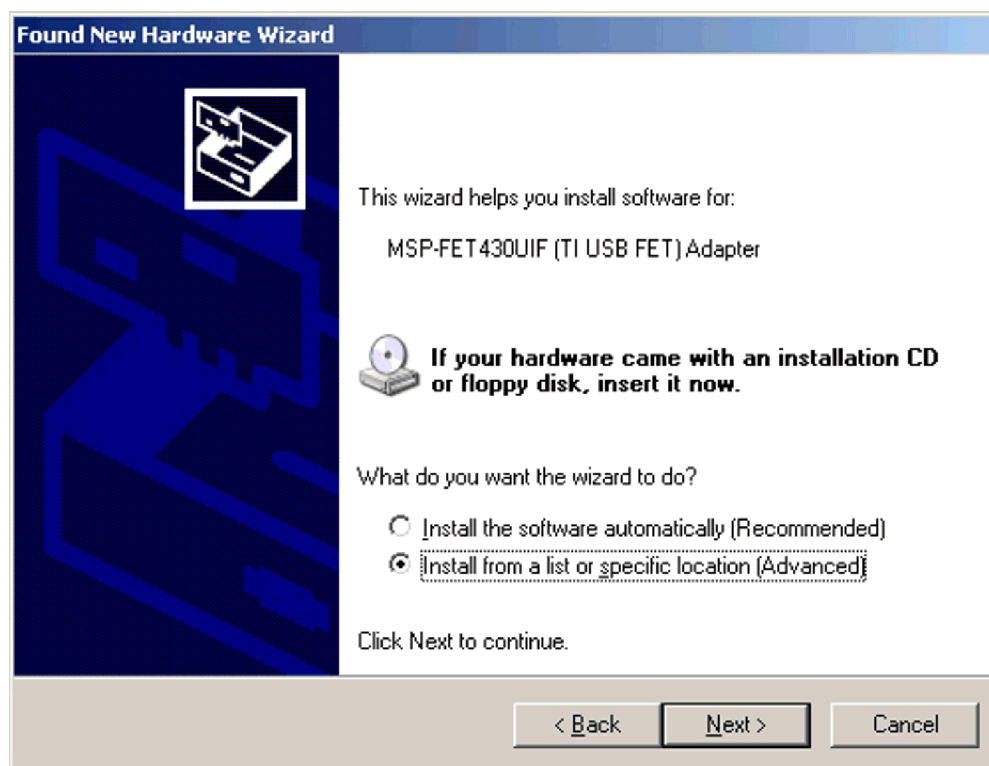

Figure E-2. Windows XP Hardware Wizard
5. Select "Install from a list or specific location (Advanced)" (see Figure E-2).